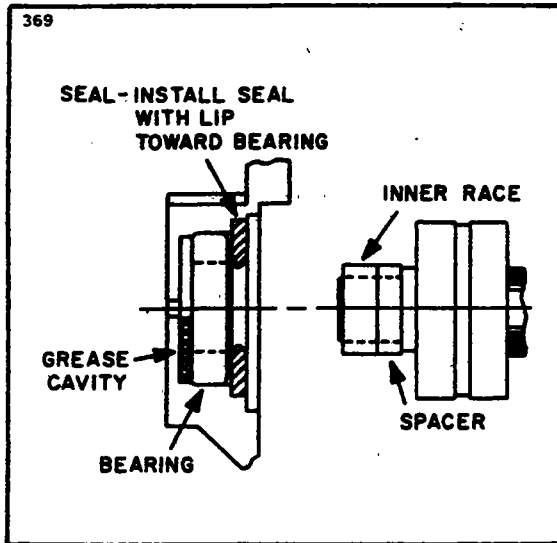

Figure 11-81. Slip Ring End Bearing Assembly
e. Install the slip ring end bearing and oil seal. Make sure the lip of the oil seal is toward the bearing. Stake the seal in place. Correct assembly of bearing, seal, inner race and spacer as shown in Figure 11-81.